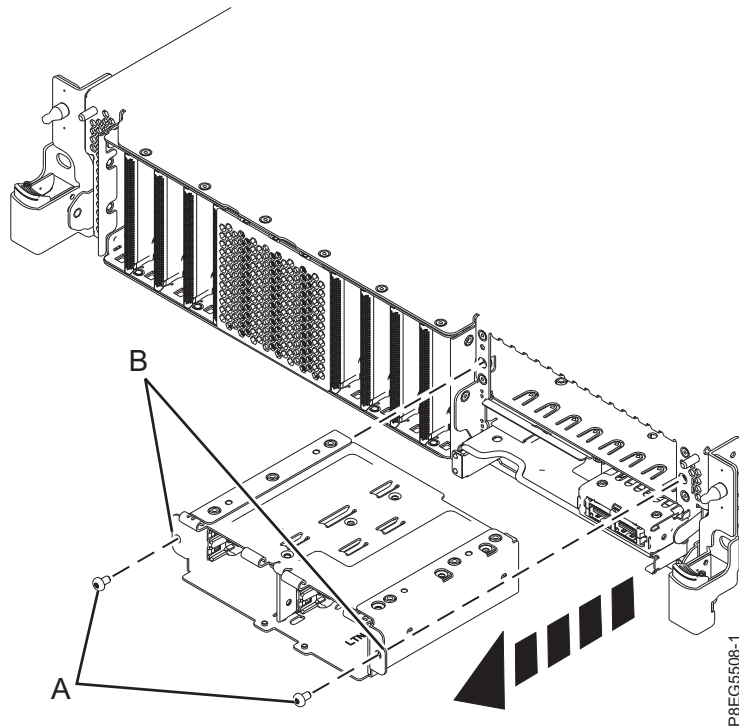

Figure 152. Pull SSD cage out partially
21. Remove screws (A) from the SSD cage. Leave the SSDs fully inserted in the cage. Grasp the mounting flanges (B) and slide the SSD cage out far enough to prevent the pins on the back of the cage from interfering with the removal of the disk drive backplane. See Figure 152 on page 161.